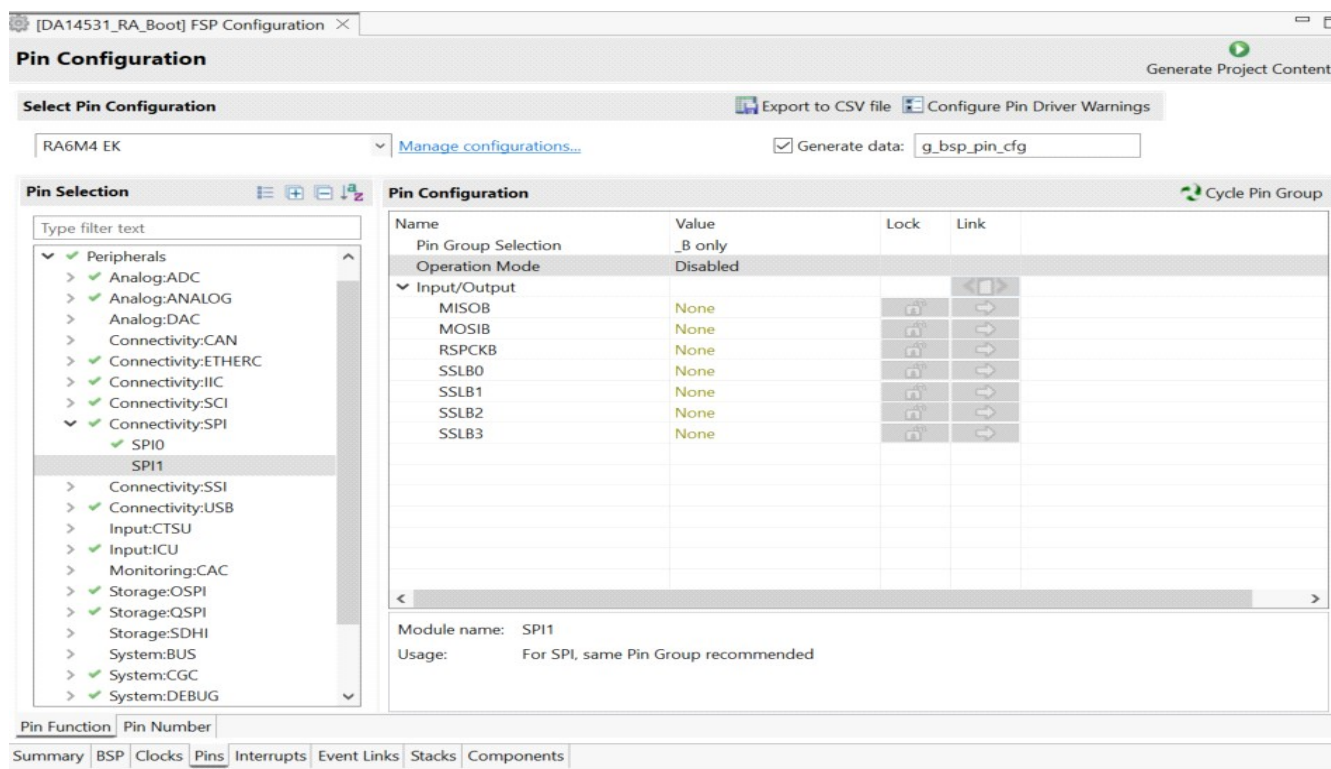

Figure 13. Pins Tab – Peripherals &gt; Connectivity: SPI Group
13. Navigate to the **Pins** tab within the **Pins Configuration** window (see Figure 13).